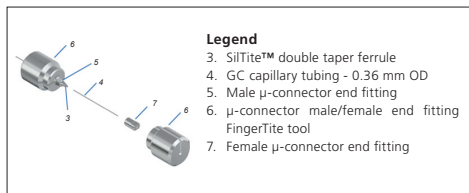

Figure 3. Exploded view of installing the female end fitting.
5. Remove the male  $\mu$ -connector end fitting (5) from the ferrule/nut adaptor tool – the ferrule should be fully swaged into the end fitting. Replace the ferrule/nut adaptor tool into the kit. Referring to Fig 3., locate the female  $\mu$ -connector end fitting (7) and slide onto the second piece of GC capillary tubing – the threaded piece should be facing towards the cut end of the tubing.